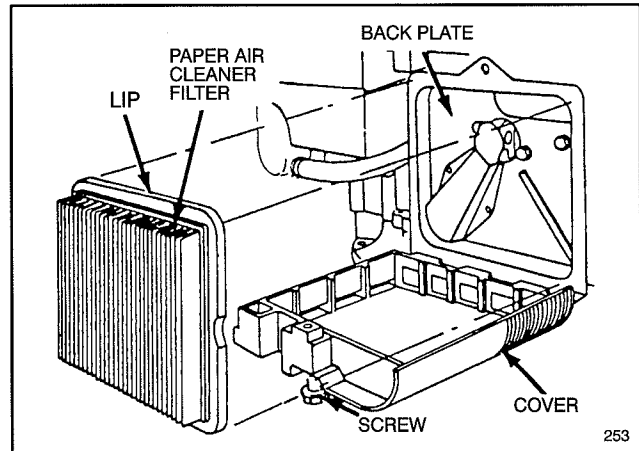

Figure 11
3. Remove paper air cleaner filter (Fig. 11) and discard.
4. Insert new paper air cleaner filter cartridge so lip touches back plate as shown in Figure 11.